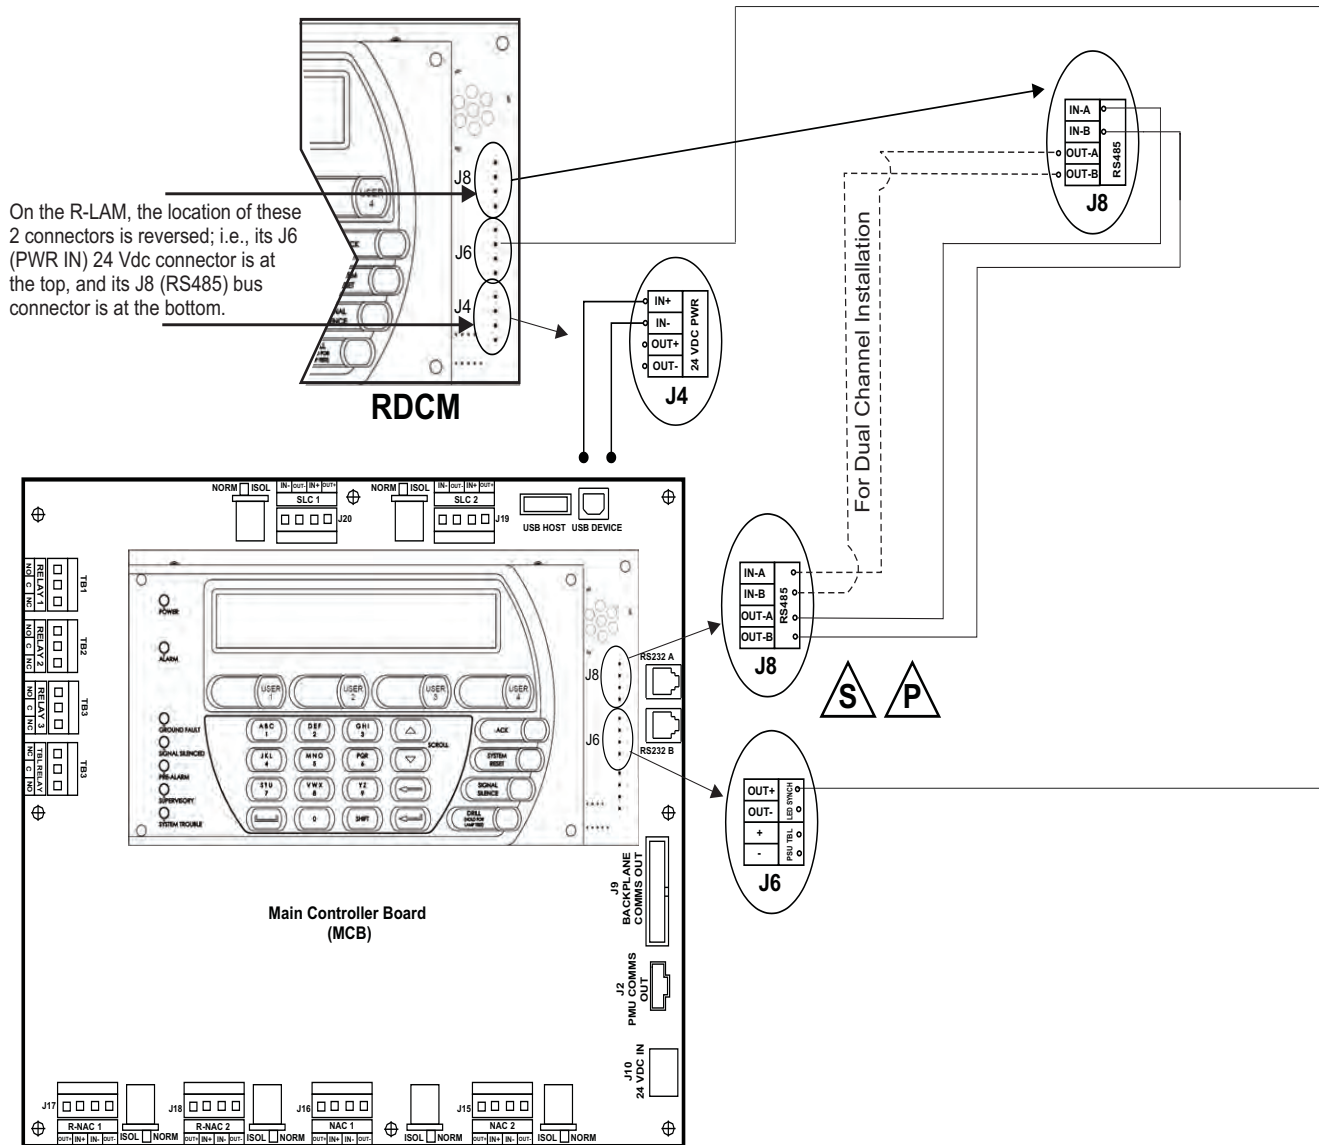

Figure 2-41. RS485 Wiring Diagram for Remote Devices to MCB
6. With the enclosure secured to the wall, power and RS485 cables can be connected. Refer to the wiring diagram shown in Figure 2-41.
12. Connect power and RS485 cables. Refer to the wiring diagram shown in Figure 2-41.
The RS-485 communications circuit is power-limited. Figure 2-41 shows typical interconnections among the FenwalNET 8000-ML control unit and the peripheral devices using both a single and dual communications channel.